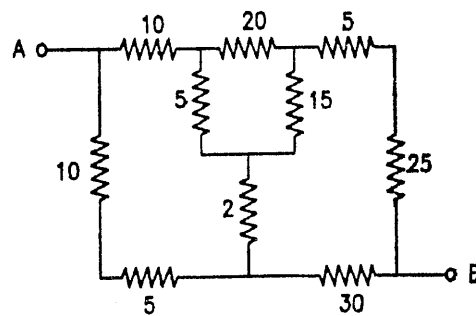

FIG. 1.186 : REFERENCE FIGURE FOR PROBLEM NO. 9
9. Using delta-star transformation, determine the resistance between the terminals A and B in the given circuit of Fig. 1.186. [23.51 Ω]